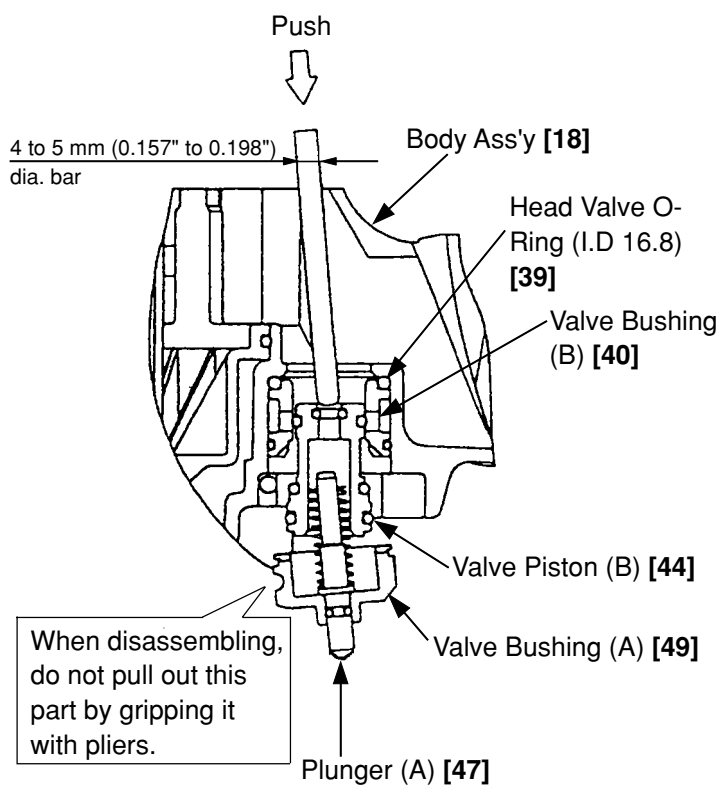

Fig. 24
- 1) Remove the Exhaust Cover [5] by following the procedure in (1), section 10-2.
- 2) As shown in Fig. 24, put a 4 to 5 mm (0.157 to 0.197") dia. bar in from the upper side of the Body Ass'y [18] and push the top of Valve Piston (B) [44]. Now, the parts forming the control valve can be taken out except Valve Bushing (A) [49] and the Head Valve O-Ring (I.D 16.8) [39].